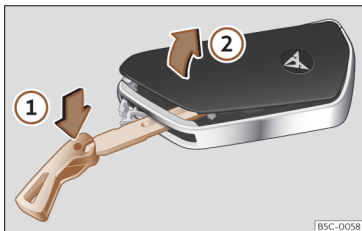

Fig. 78 Vehicle key: opening the battery compartment cover.
- Insert the key blade into the slot >>> **Fig. 78**, press it in the direction of arrow ① and detach the cover by levering it ②.